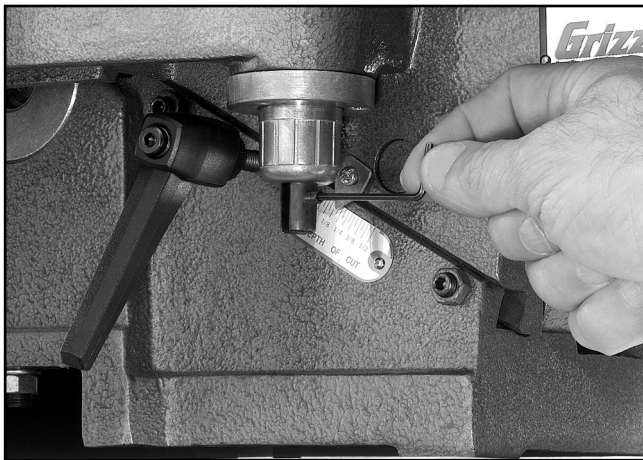

Figure 17. Cutterhead guard setscrew.
2. Using a 2.5mm Allen wrench, thread the setscrew through the hole in the forked end of the cutterhead guard shaft (**Figure 17**).